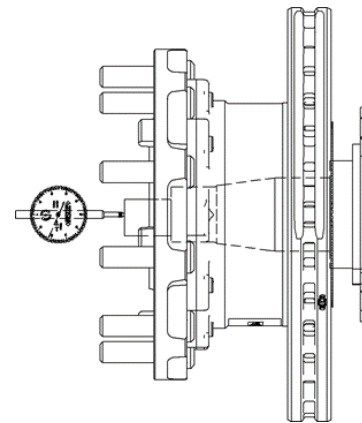

Figure 9 - Wheel End Play Measurement
3. Place the tip of the dial indicator on the center of the steering knuckle spindle. Set the dial indicator on zero (**Figure 9**).